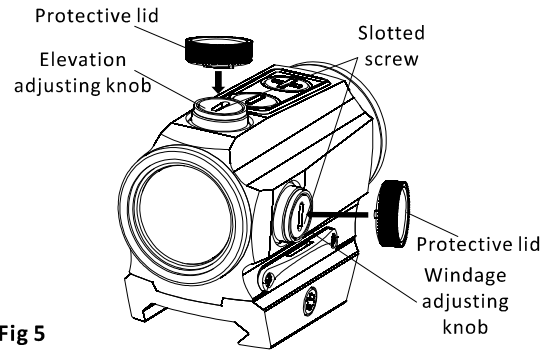

Fig 5
1. On top of sight is the elevation adjusting turret, windage adjusting turret is on the right side (see Fig5). The sight has been factory adjusted for approximate zero.
2. The built in screw driver tool on the protective cap can be used for zeroing alignment (see Fig5). See label inside cap.